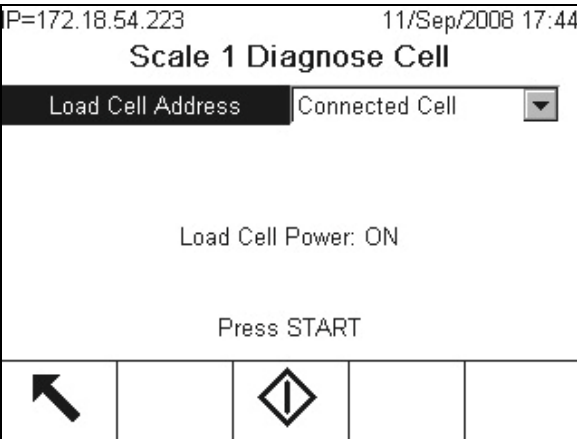

Figure 3-23: Diagnose Cell Screen
- **Diagnose Cell**—Used for POWERCELL scales only (but not POWERCELL PDX). The purpose of the Diagnose Cell screens is to allow the technician to verify a load cell's node address and raw counts. If the cell that is being diagnosed has a known address, select that address from the Load Cell Address selection box. If the cell address is unknown, then select Connected Cell. If the cell is faulty or it has an invalid address, the terminal will fail to communicate with the cell. If the cell responds correctly, the node address and the cell counts will be displayed on the screen (Figure 3-23).